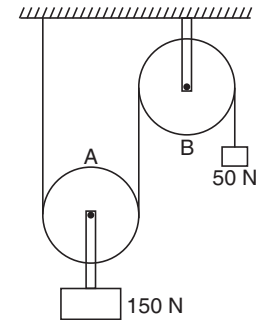

FIGURE 2.18
73. Two weights of 50 N and 150 N (of two blocks A and B respectively) are connected by a string and frictionless and weightless pulleys as shown in Fig. 2.18. The tension in the string would be
74. Refer to Fig. 2.18, the acceleration to block A would be
75. Refer to Fig. 2.18, the acceleration of block B would be